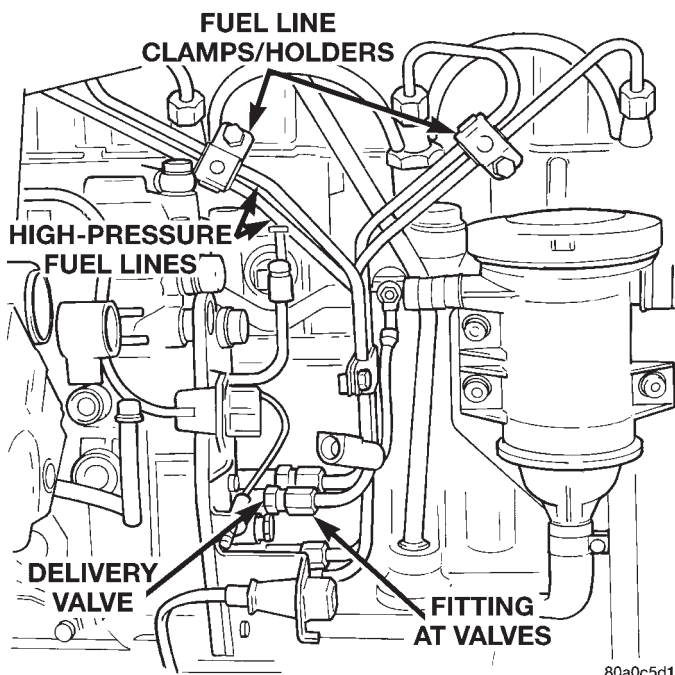

Fig. 50 Fuel Lines and Clamps/Holders
- (1) Disconnect negative battery cable from battery.
- (2) Remove the necessary clamps (Fig. 50) holding the lines to the engine.
CAUTION: Be sure that the high-pressure fuel lines are installed in the same order that they were removed. Prevent the injection pump delivery valve holders (Fig. 50) from turning when removing or installing high-pressure lines from injection pump.